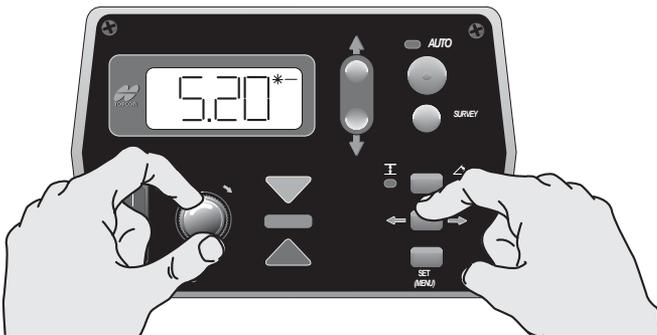

Figure 4-14. Remotely Change Second Control Box Settings
2. Hold the cross communication button and view or make changes to the settings in the second box (Figure 4-14).